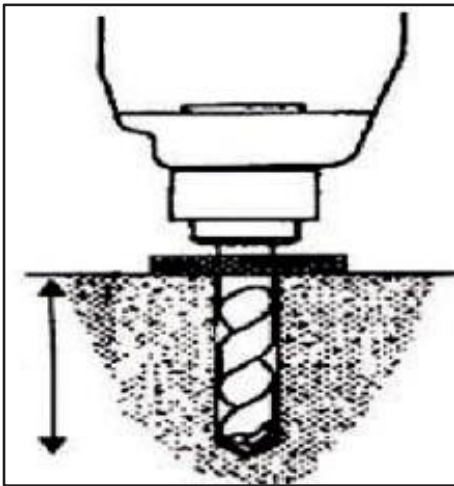

Fig. 21
- Drill the $\phi 18$ impact bit from the platform floor hole into the 160 mm deep hole on the ground (Figure 21) by using an electric hammer, and clean the hole. Install the anchor bolt into the hole with a light hammer (do not install the anchor bolt into the center expansion nail until the horizontal adjustment is completed)